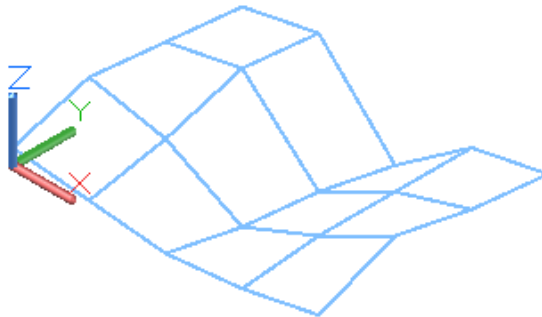

Figure Step 3
Step 3 Set the current visual style to 3D Wireframe. (Figure Step 3)